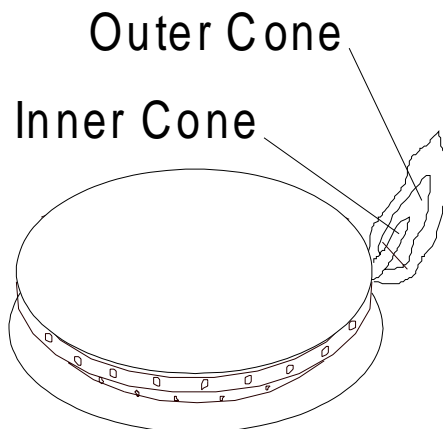

figure 8.
- iii) Check the quality of the flame. The top burners should have a steady, relatively quiet flame with a 1/2" (13mm) sharp blue cone. There should be no orange flame. The oven burner should have a clean blue flame with inner cones of 1/4" to 1/2" (6.35mm to 13mm). See figure 8. If everything checks out, you're "cooking with gas". If not, refer to the gas trouble shooting guide, page 27.